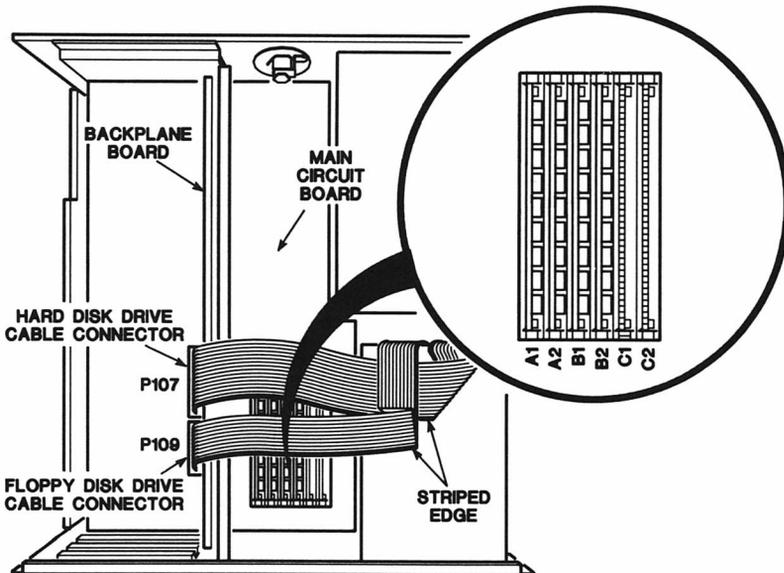

Figure 2-2. Memory Module Socket Locations
The SIMM consists of nine separate memory chips (one bank) mounted on a small circuit board. The board is then plugged into a socket on the main board of the computer. The factory installed memory consists of four 256K SIMMs. To add memory to the computer, refer to Figure 2-2 and the following procedure:
2. Refer to Figure 2-2 and locate the memory module sockets. The sockets are designated A1, A2, B1, B2, C1, and C2.